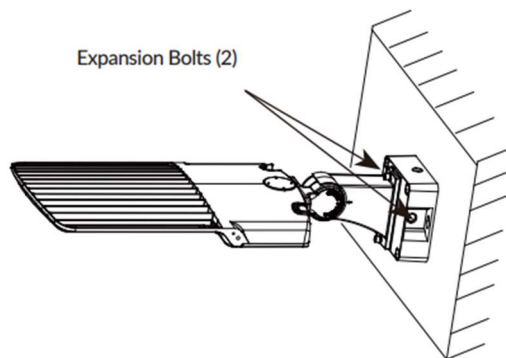

Figure 5
5. Securely mount the Surface Mount Bracket onto Expansion Bolts with nuts. (Figure 5)